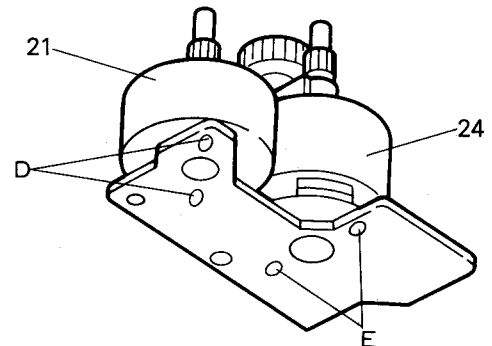

Fig. 7-29
2. When removing the reel motor, unsolder the two points (D) on the back side. (Fig. 7-29)
3. When removing the actuator motor, unsolder the two points (E) in the same manner. (Fig. 7-29)